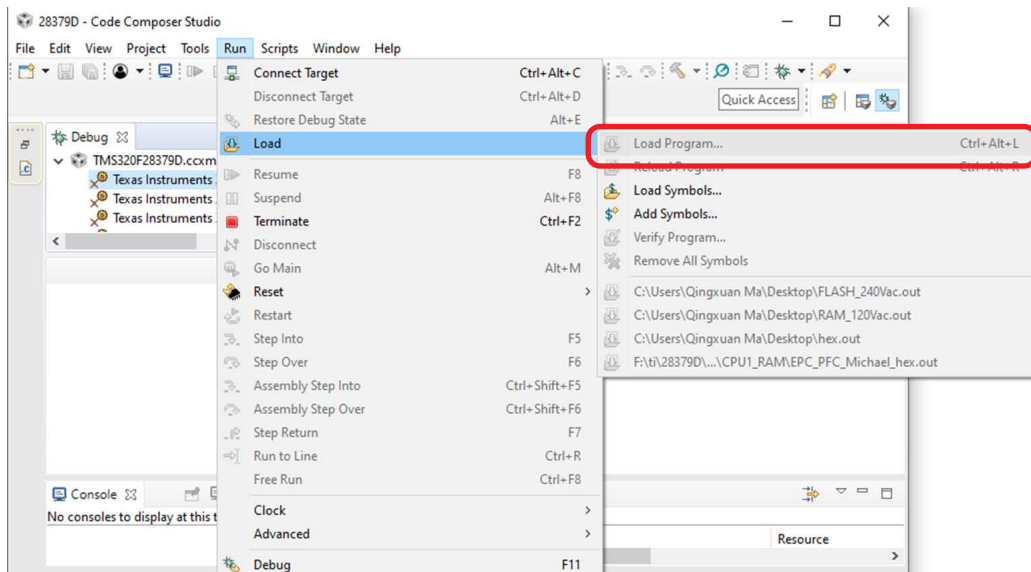

Figure 10: Load .out file
7. Choose **Load**, then **Load Program** to load the selected .out file (Figure 10).